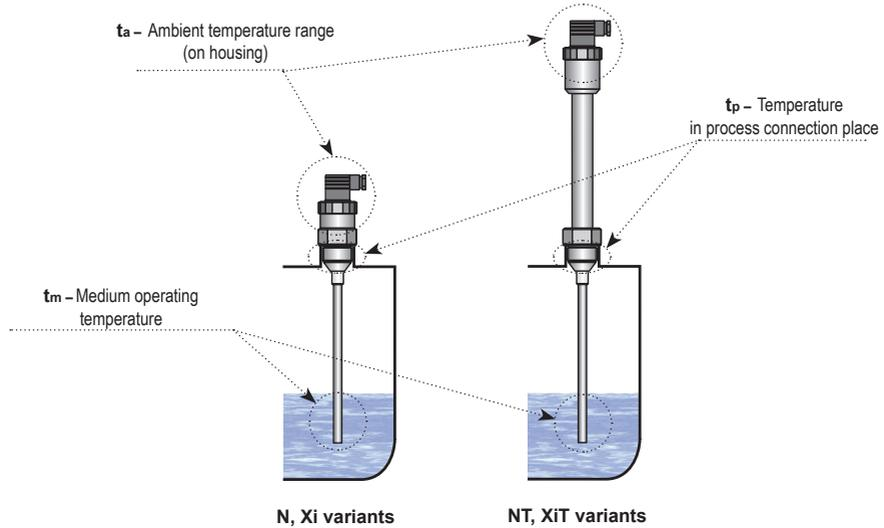

Fig. 17: Points for temperature determination on the level meter
1) The temperatures are clearly explained on Fig. 17.